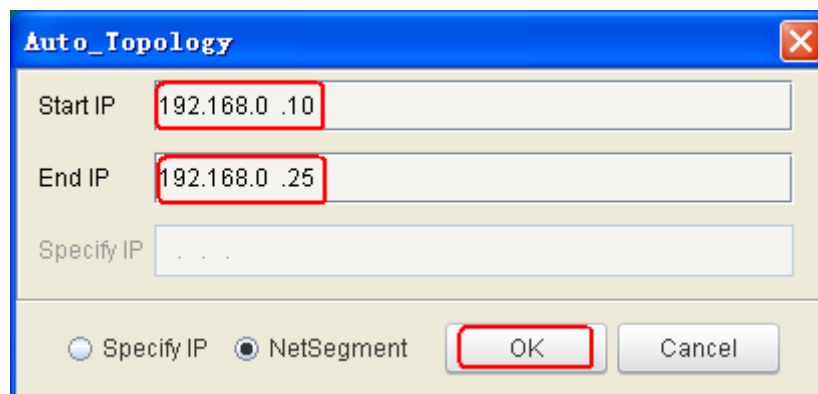

Figure 32 Specifying a Network Segment for Auto-Topology
1. Click  in the topology toolbar. The Auto_Topology dialog box is displayed, as shown in Figure 32.